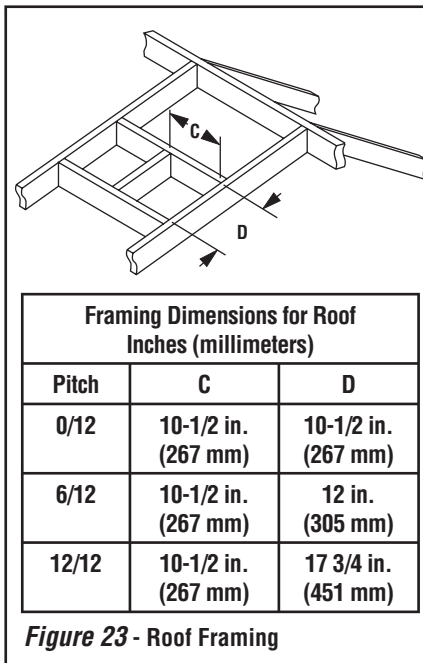

Figure 23 - Roof Framing
H. Frame roof opening - Identify location for vent at the roof. Cut and/or frame opening per Roof Framing Chart and **Figure 23**.